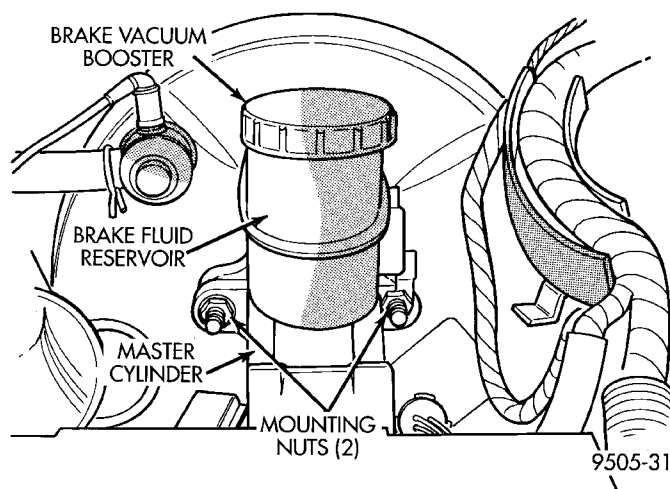

Fig. 104 Master Cylinder Mounting To Vacuum Booster
(4) On vehicles equipped with ABS, clean area where master cylinder attaches to booster using a suitable brake cleaner product such as Mopar Brake Parts Cleaner or an equivalent.
(5) Remove the 2 nuts (Fig. 104) attaching master cylinder housing to power brake vacuum booster.
(3) Position master cylinder on studs of power brake unit, aligning push rod on power brake vacuum booster with master cylinder push rod.
(4) Install the 2 master cylinder to power brake unit mounting nuts (Fig. 104) and torque to 28 N·m (250 in. lbs.) torque.